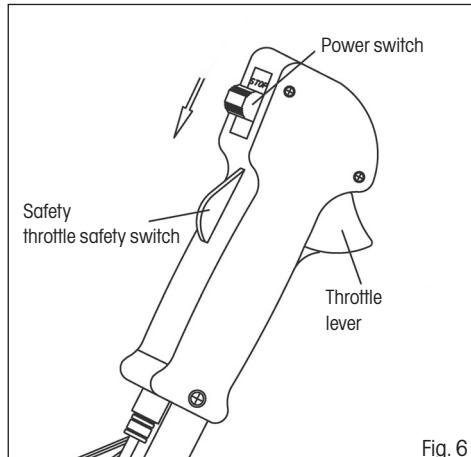

Fig. 6
1. Set the power switch to the "START" position. (see fig. 6)
- ✿ To increase speed, first use the palm of your hand to push down the throttle safety switch and then use your finger to pull on the throttle trigger (see fig. 6)